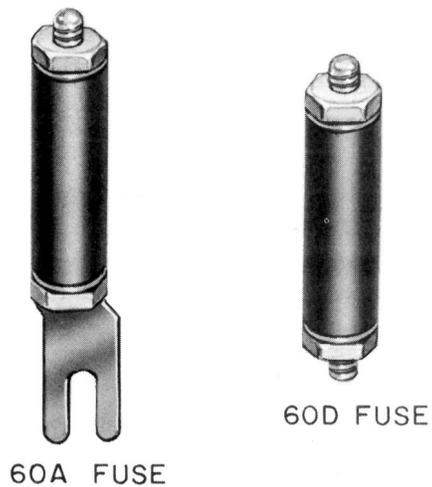
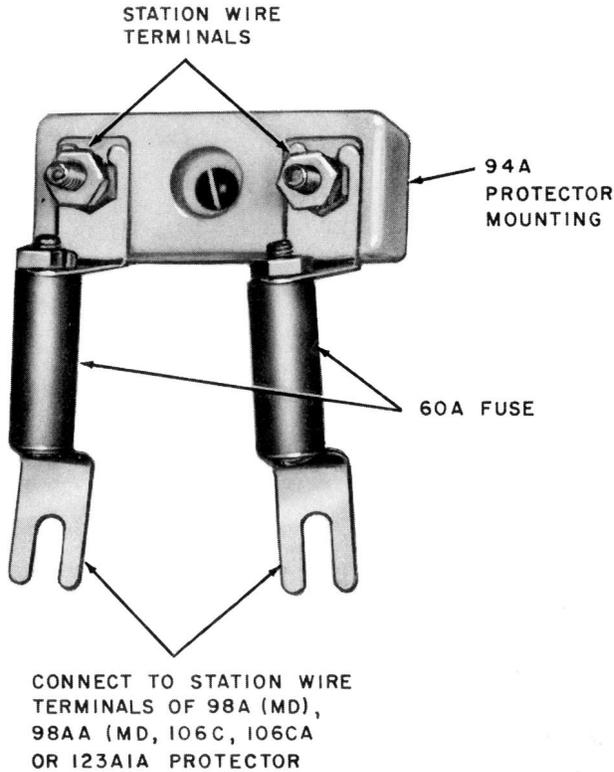

Fig. 79—60A and 60D Fuses
Fig. 80—60A Fuses Connected to 94A Protector Mounting
10.04 The 60A and 60D fuses (Fig. 79) are rated 0.350 ampere and differ only in arrangement for mounting. The 60A fuse has a spade terminal and is used with the 94A protector mounting (Fig. 80). The 60D fuse is mounted in a 14A fuse holder (Fig. 81) or 1094A protector (Fig. 82), or 191A1-20 protector (Fig. 83)